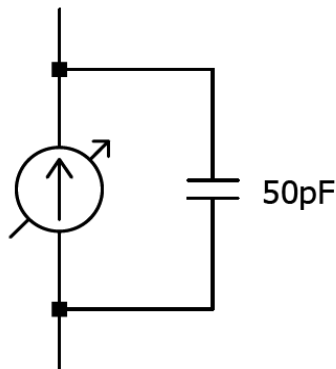

Figure 12.30: Current source model of a photo-diode.
1. Use the 5Spice circuit simulator to simulate the ideal theoretical behavior of the circuit in Lab 7 part 4a (use LM741 as the Op-Amp). Replace the photodiode with the following sub-circuit of figure 12.30 below.